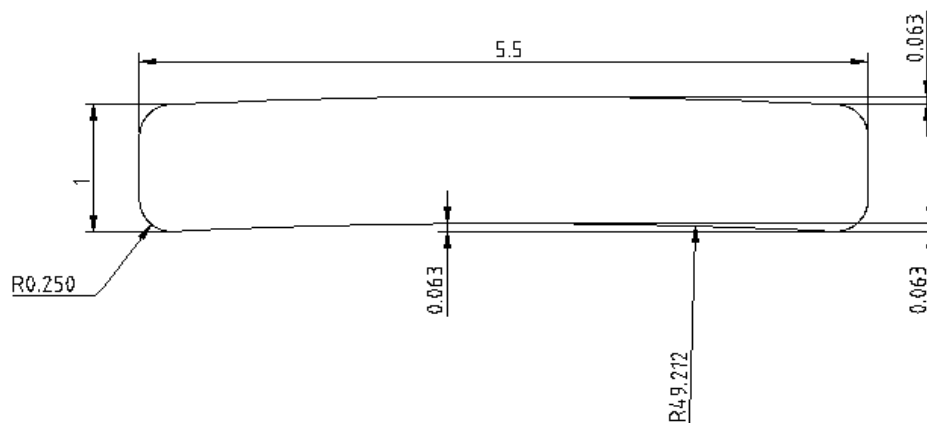

Figure 1 – VEKAdeck[™] Dimensions
3.3. Profiles - VEKAdeck™ deck boards have a solid cross-section with nominal dimensions of 1 inch thick by 5-1/2 inches wide. See Figure 1.